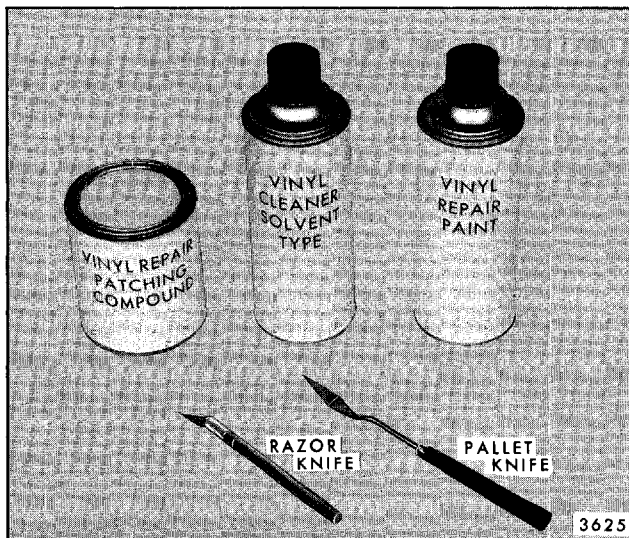

Fig. 8-51-Fabric Roof Cover Repair Materials and Tools
2. Pallet knife - a small trowel used for applying vinyl repair patching compound (Fig. 8-51).
3. Razor or sharp knife - to be used for removing frayed edges from damaged area prior to application of vinyl patching compound (Fig. 8-51).
5. Vinyl cleaner (solvent type) - for removal of wax, silicone, oil, etc., from repair area prior to paint application (Fig. 8-51).
6. Vinyl repair patching compound - a heat curing, milky colored, heavy bodied plastisol for repairing cut, torn, scuffed or gouged vinyl roof cover material (Fig. 8-51).
3. Vinyl cleaner (solvent type) - for removal of wax, silicone, oil, etc., from repair area (see Fig. 8-51).
4. Vinyl repair patching compound - a heat curing, milky colored, heavy-bodied plastisol for repairing damaged area (see Fig. 8-51).
5. Vinyl repair paint - an approved, durable, waterproof, weather-resistant, pliable vinyl paint for final color refinishing (see Fig. 8-51).
6. Pallet knife - a small trowel for applying patching compound to repair area (see Fig. 8-51).